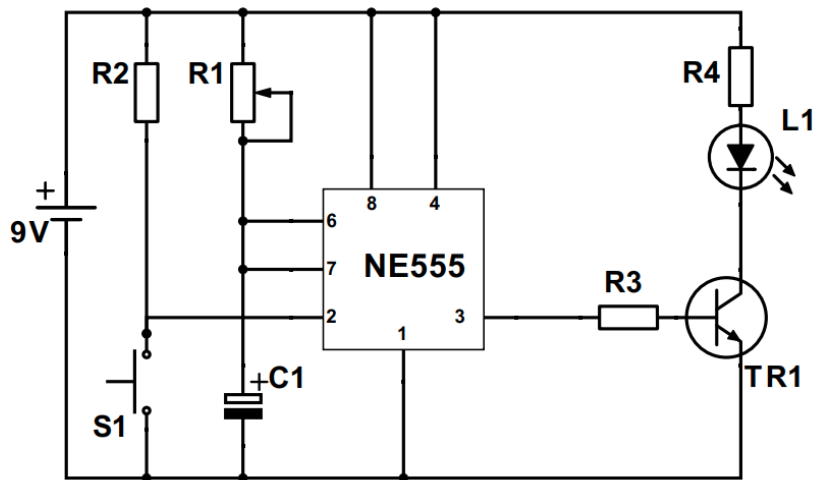
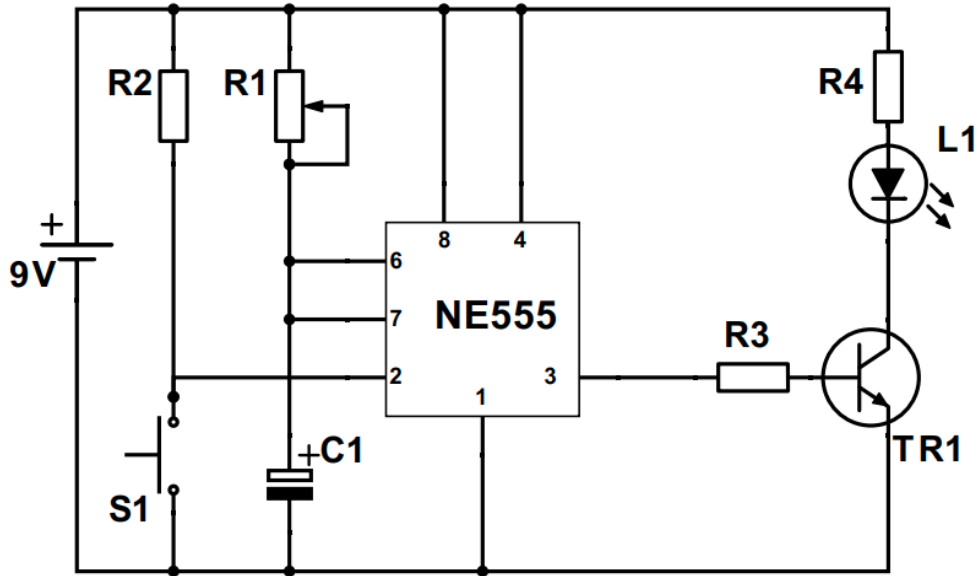

Figure 3
Figure 6
Figure 3 shows a simple prototype circuit schematic of the system chosen.
c. Name the components shown in Figure 3 as listed in the grid below:
e. The circuit shown in Figure 3, is being built on breadboard as shown in Figure 5. State **ONE** advantage of using this type of board.
Figure 6 shows again the circuit discussed in the previous question (the same as Figure 3). In case of an emergency, this system can be removed from the storage compartment and be used as a torch.
b. Add a latching switch and wires to the circuit in Figure 6 to bypass the timing circuit and turn ON L1 indefinitely. (3)
d. It was noted that one LED did not emit enough light to illuminate the storage compartment and a second LED needs to be added. Design a way to add a second LED on Figure 6 to increase the brightness of the system as much as possible. Answer on Figure 6. (2)